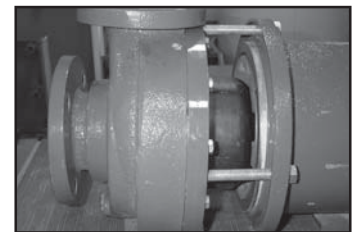

figure 9
4. Separate the magnetic coupling between the drive end and the pump end by using the (3) jackscrews (item 14). Using a 3/4" socket turn the jackscrews clockwise. Be sure to turn the jackscrews evenly. Turn the jackscrews until they are fully extended (see figure 9).